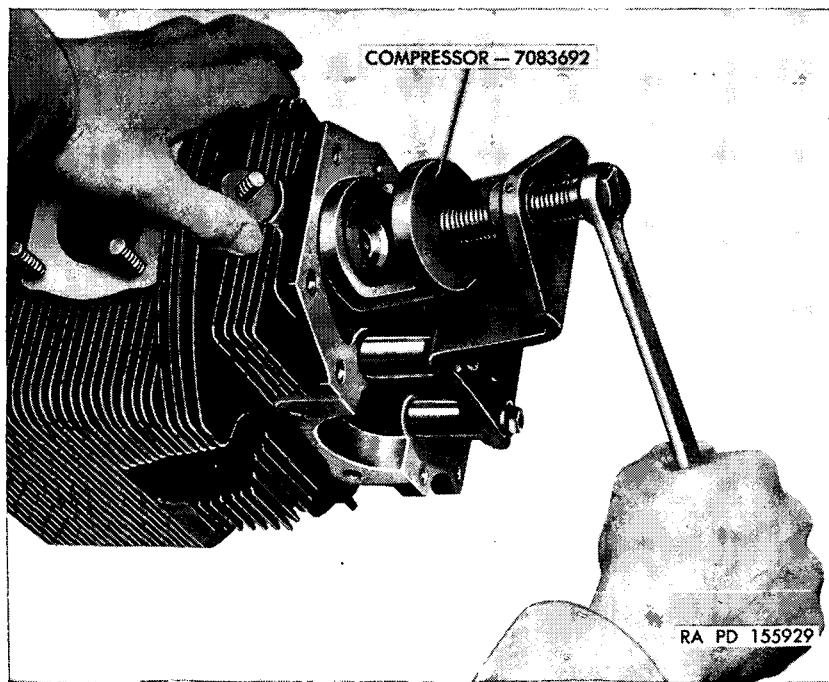

Figure 59. Compressing valve springs.
*b.* The intermediate cylinder valve rocker cover (V) was removed at engine disassembly (par. 45). Remove camshaft bearing cap (R) and valve rocker shaft bracket (U). Note identification numbers on caps and brackets (par. 47c).
*c.* Place valve spring compressor 7083692 (fig. 59) on the cylinder head. Attach it in position over the exhaust valve with bolts from the bearing cap and rocket shaft bracket or other suitable bolts. Screw in the spring depressor until the exhaust valve spring retainer (BB) exposes the spring retainer lock (Q). Tap compressor lightly with a soft hammer if the lock tends to stick in the valve stem groove. Remove the locks. Release compressor carefully and remove the spring retainer, the three valve springs, the exhaust valve rotator (FF) and the exhaust valve (RR). Position spring compressor on the intake valve and remove as outlined above.
a. Install exhaust valve spring compressor 7083692 (fig. 59) on the cylinder head. Secure it in position with bolts from the camshaft bearing cap (R) and rocker shaft bracket (U) or other suitable bolts. Insert the exhaust valve (RR) in its guide. Assemble the exhaust valve rotator (FF), three valve springs, and exhaust valve spring retainer (BB). Compress the spring assembly sufficiently to permit installation of spring retainer locks (Q)